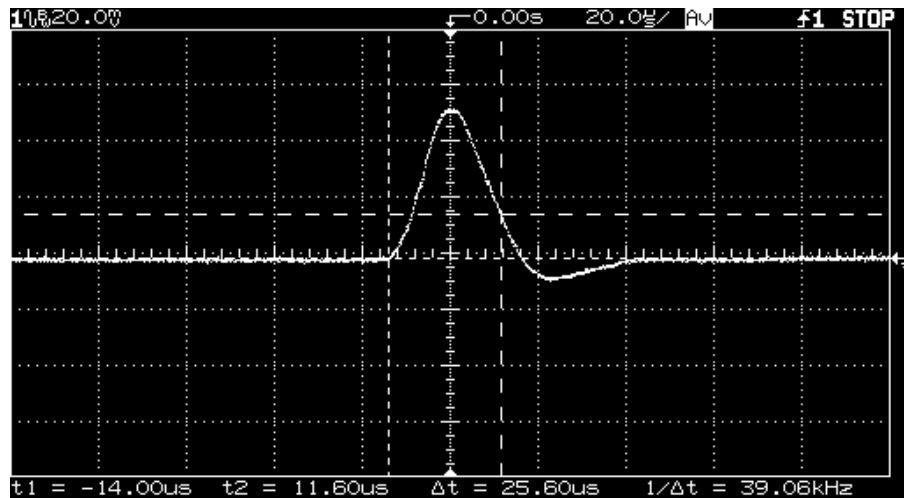

Figure 3-2. Transient Response Time
- 5 Adjust the the oscilloscope to display transients as shown in Figure 3-2. Note that the pulse width ( $t_2-t_1$ ) of the transients at 15 mV from the base line is no more than 50  $\mu$ sec for the output.